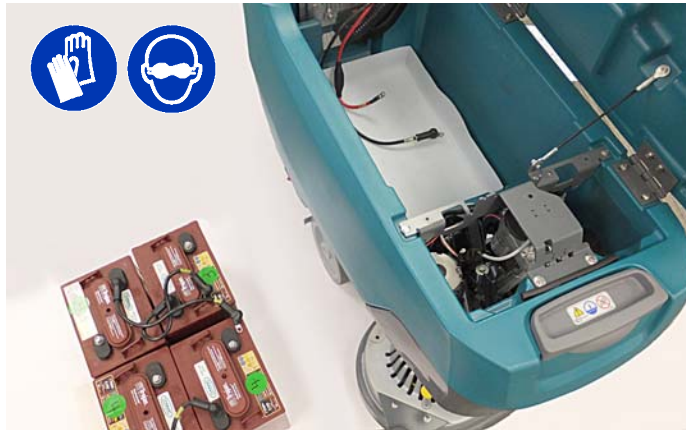

Fig. 1
3. Remove batteries from machine (Figure 1).